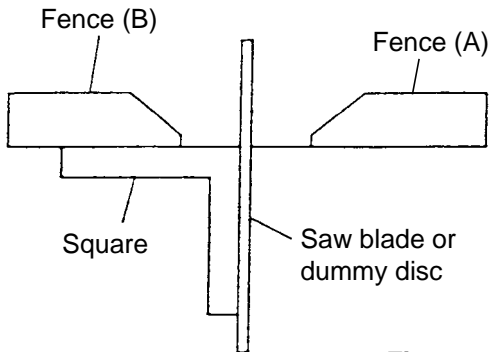

Fig. 23
After disassembly or replacement of the Base [49], Turn Table [38], Fence (A) [46], Fence (B) [31] or Hinge [7], it is necessary to perform necessary adjustment to ensure that the fences are positioned at precise right angles with relation to the saw blade (or dummy disc). Align fence (B) with the saw blade (or dummy disc), and adjust them as necessary to ensure squareness (tolerance: 0.15/100 mm). As shown in Fig. 23, use a square to adjust fence (B) so that it is square with the saw blade. Next, use a straight edge to adjust fence (A) so that it is exactly aligned with fence (B). Finally, use the square to confirm squareness of fence (A) with the saw blade (tolerance: 0.15/100 mm).
(2) Adjustment of the lower limit position of the saw blade